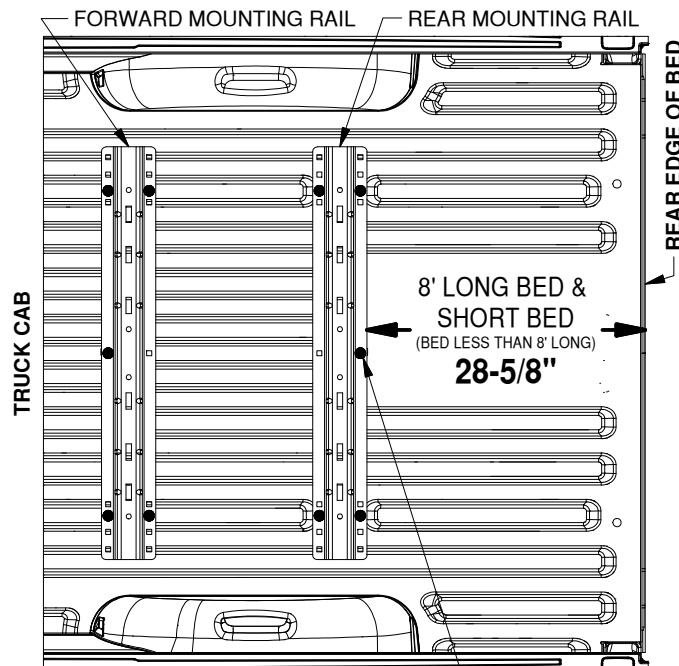

Figure B1: View over bed, showing drill locations for the forward and rear rails. DRILL LOCATIONS HIGHLIGHTED BY BLACK DOTS
1. **Layout the rear mounting rail.** Place a mounting rail onto the bed of the truck. Hook a tape measure over the rear edge of the bed (not on any part of the tailgate), measure the location for the mounting rail as shown in Figure B1. Next, center the mounting rail in the bed by measuring the distance on either side from the edge of the rail to the side of wheel well. The rail will be centered when both measurements on either side of the rail are the same.
2. **Mark hole locations.** While carefully ensuring the mounting rail does not move, use a center punch tool to mark the 5 drill locations on the rear rail. See Figure B1 for hole marking locations for this installation (forward rails will install in a later step). Once all 5 rear rail locations are clearly marked, move the bed rail out of the way and drill each location with an 1/8" drill bit.
2. **Drill forward mounting holes.** Using the same methods as used for the rear mounting rail mark, drill, check, and enlarge the holes for the forward mounting rail. Refer to "ENLARGE HOLES & INSTALL SIDE PLATES" section, Steps 1 through 2, on previous page. Notice that the hole locations are slightly different than the rear rail, see Figure B1 (on the second page).